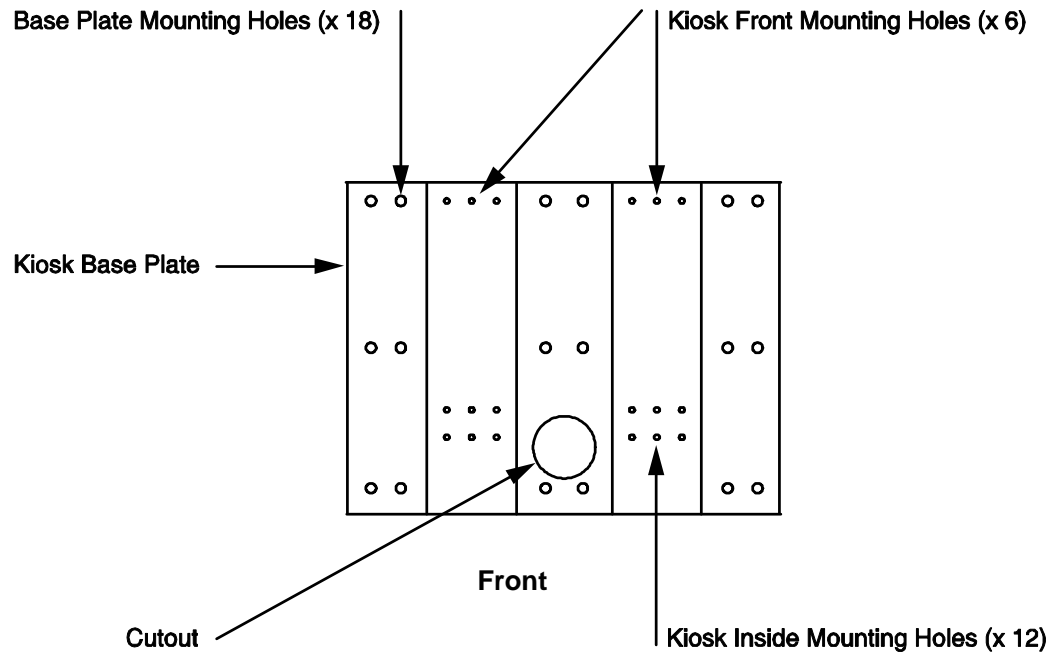

Figure 1. Touch Screen Kiosk Base Plate
The Kiosk base plate is secured to the floor and the Kiosk is secured to the base plate as shown in Figure 1.
2. Using the Kiosk base plate as a template, trace an opening in the floor for the cutout and mark the Touch Screen mounting hole locations as shown in Figure 1. Ensure that the base plate is aligned with the electrical conduit.
4. Secure the base plate to the floor using the supplied 18 screws as shown in Figure 1.
2. Secure the Kiosk onto the front base plate using the supplied six screws into the locations shown in Figure 1.
3. Open the Kiosk and secure the Kiosk into the base plate using the supplied 12 screws into the locations shown in Figure 1.